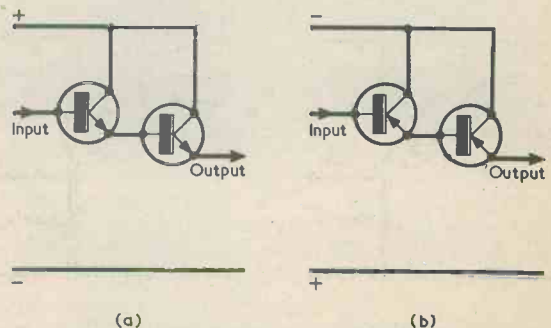

Fig. 5. The Darlington pair. In (a) this consists of two n.p.n. emitter followers whilst in (b) it is given by two p.n.p. emitter followers
Two emitter followers in tandem form a "Darlington pair" and this is shown in Fig. 5(a) for
n.p.n. transistors and in Fig. 5(b) for p.n.p. transistors. The voltage at the emitter of the second transistor now "follows" the voltage at the base of the first transistor, and is lower than it by the voltage drop between the base of the first transistor and the emitter of the second transistor. With two silicon transistors this drop is of the order of 1.2 volts (i.e. 0.6 volt in each transistor). The current gain is approximately the product of the gains of the two transistors, and can be exceptionally high. If each transistor has an h_{FE} of 300 times the overall static current gain is about 90,000 times.